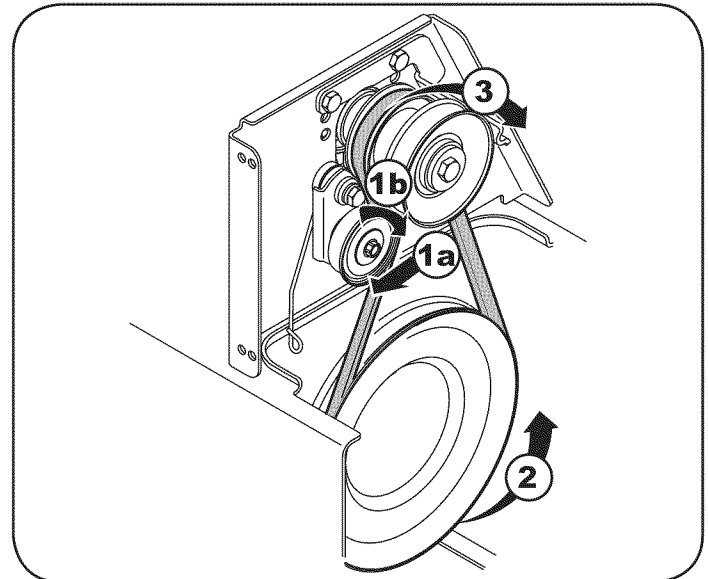

Figure 36
- a. Pull the idler pulley away from the backside of the drive belt to relieve the tension. See Figure 36.